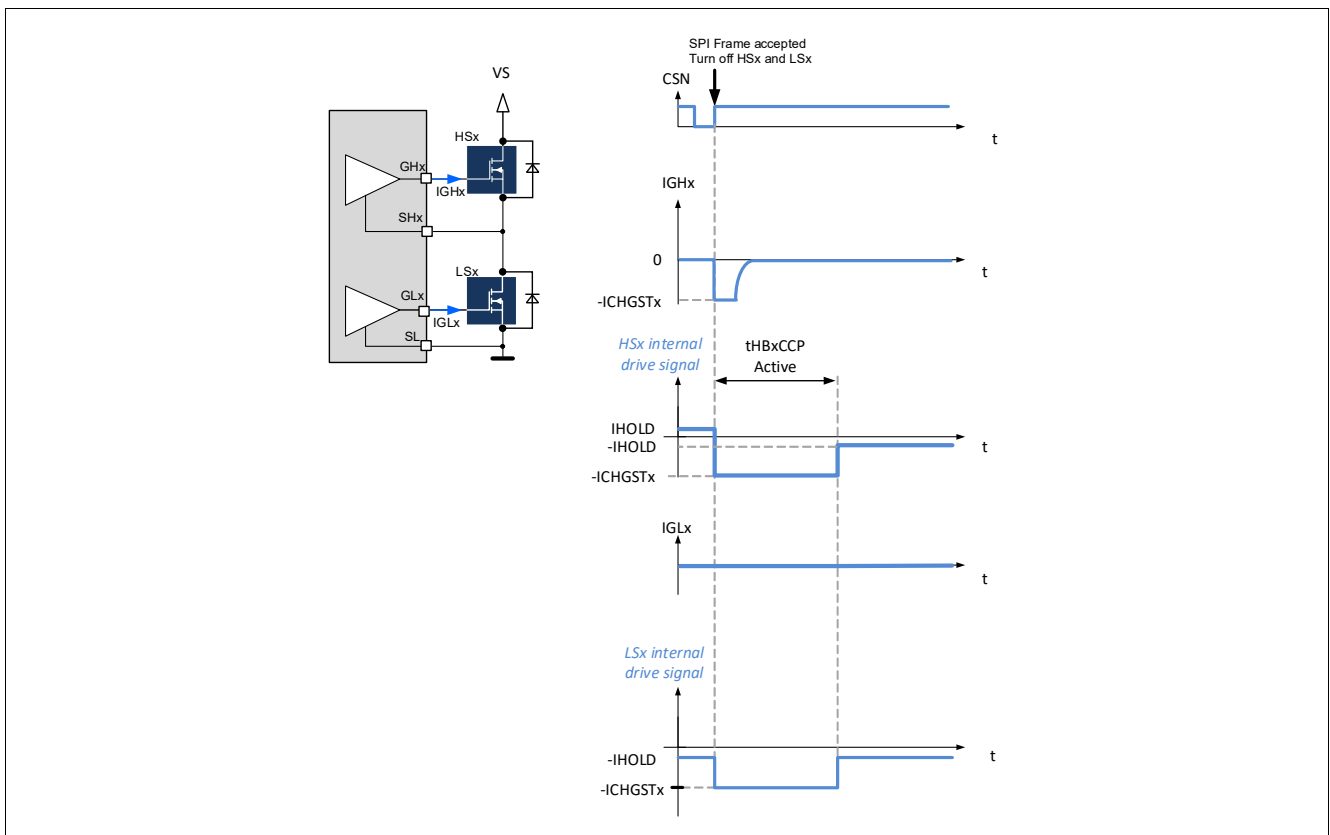

Figure 38 Turn-off of the high-side and low-side MOSFETs of a half-bridge
- The gate of HSx and LSx are discharged with the current $-ICHGSTx$ for the duration $t_{HBxCCP ACTIVE}$ (Figure 38).